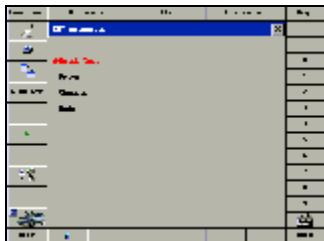

Fig.3.34
1. See Fig.3.34. Select **Quick test** to enter quick test mode.